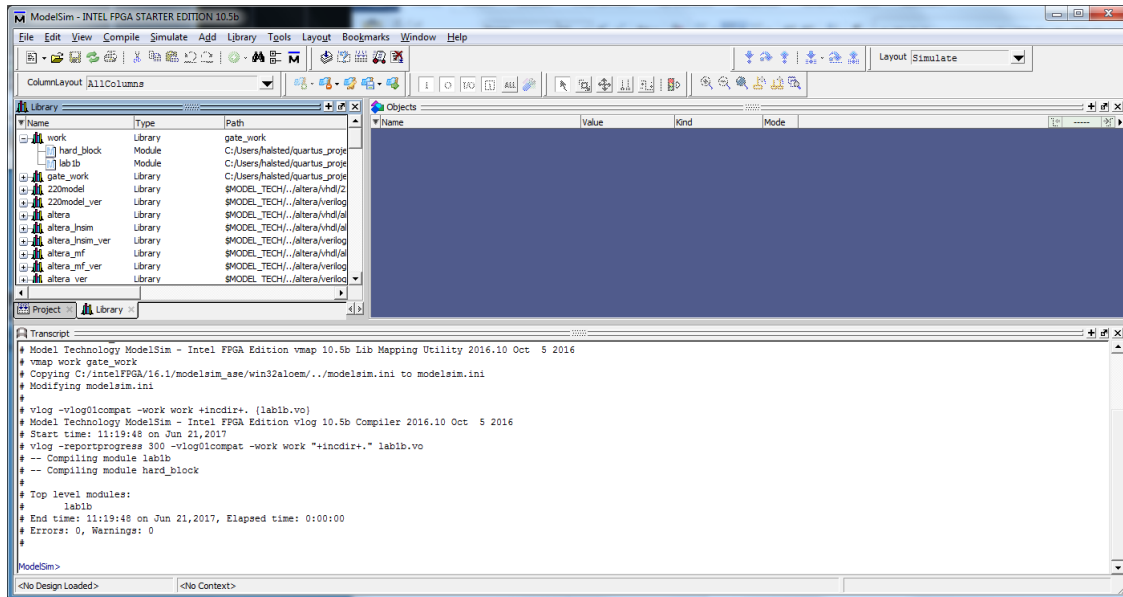

Figure 10. ModelSim-Altera
4. ModelSim will open and your design will be automatically transferred to ModelSim. Verify this by looking at "**work**" folder in the Library list window. If the Library window is not open, select **View > Library** to open it. Click on the + to expand the work library. You should see your lab1 project name, which is a Verilog netlist output file, in the **work** Library, as shown in Figure 10.